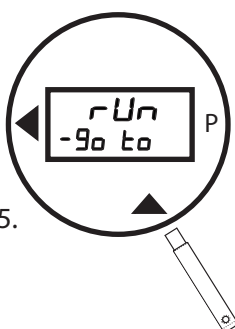

Figure 25.
- Pass the wand over **▲** to increment to the **rUn - Go** selection (Figure 25).